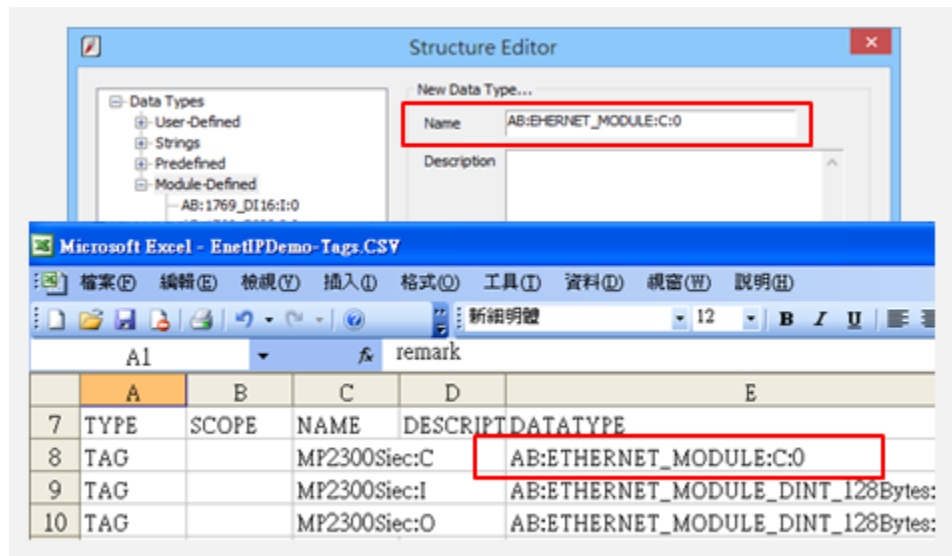
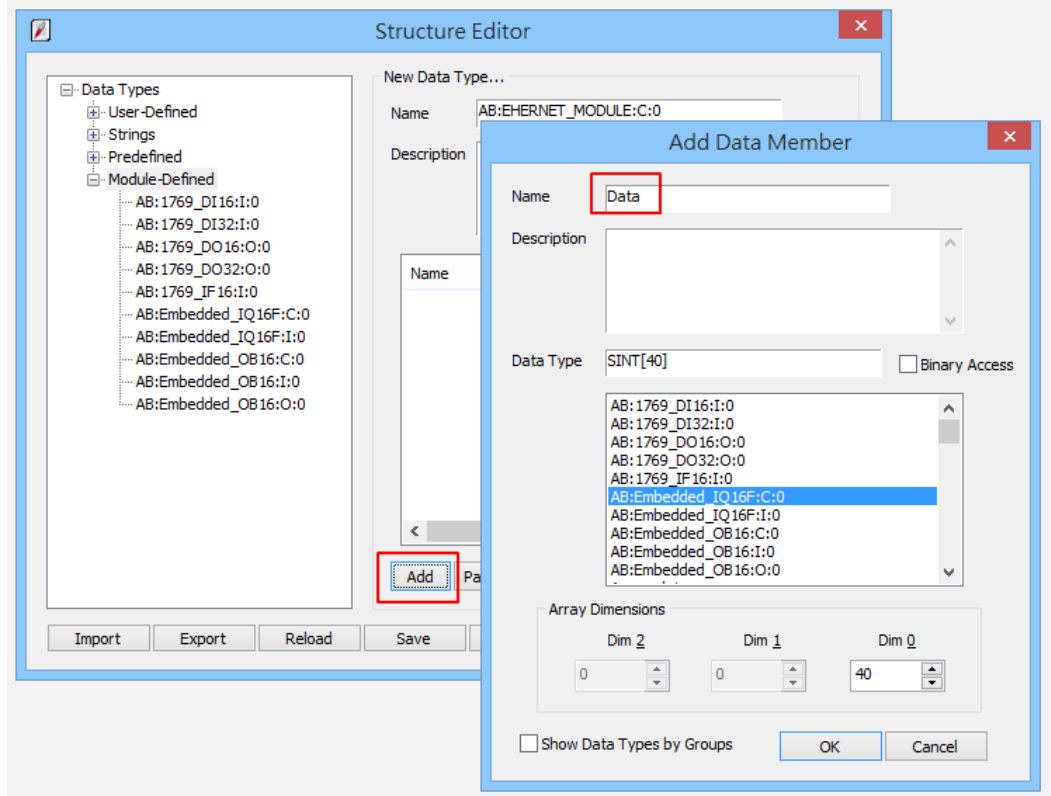

Fig.12 Structure Editor
Fig.14 Add Data Member - Name Tag Information
Step 2. As in Fig 12, in Structure Editor add Name of the new data type. The Name must be set identically to the Data Type in Free Tag CSV file. As in Fig 14, Data Member Name